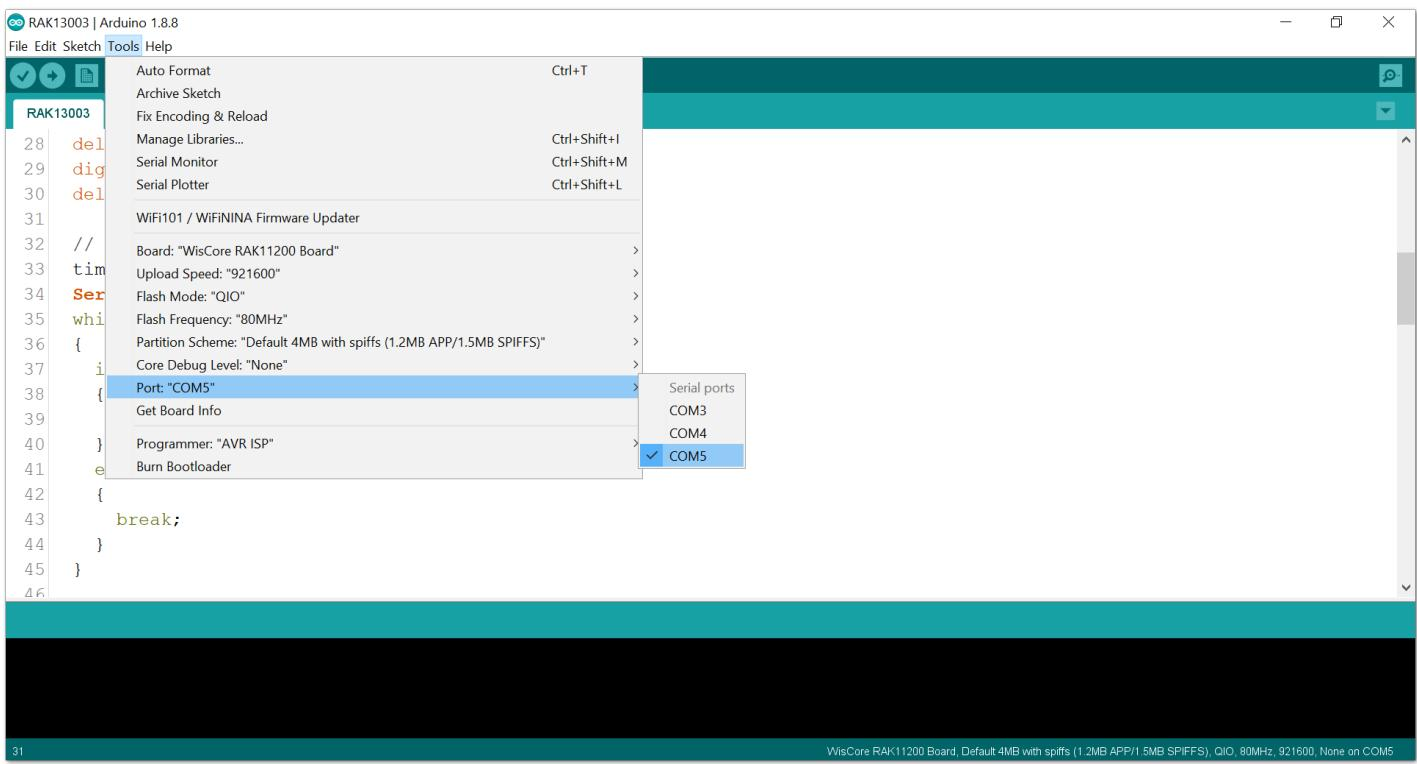
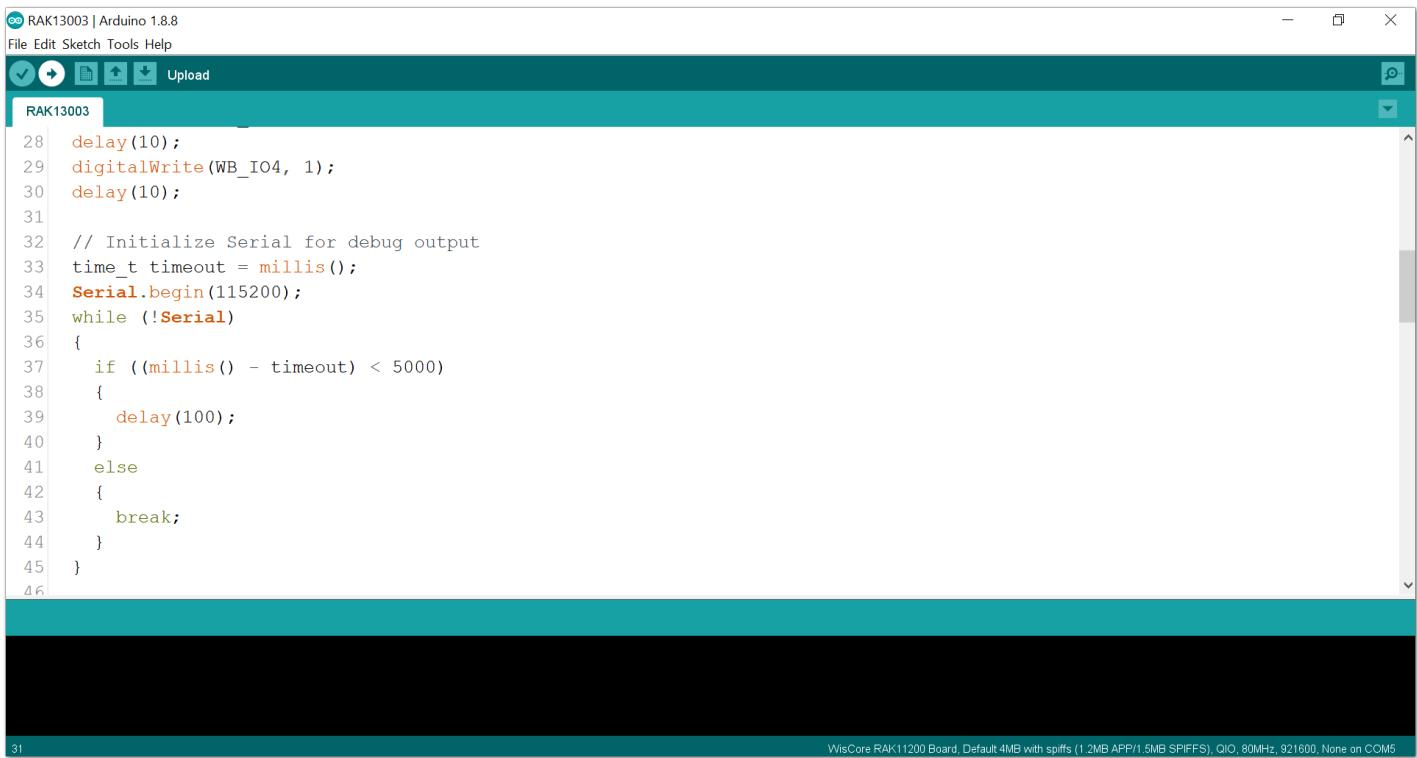

Figure 17: Selecting the correct Serial Port
Figure 18: Uploading code
5. Select the correct port and upload your code, as shown in **Figure 17** and **Figure 18**.